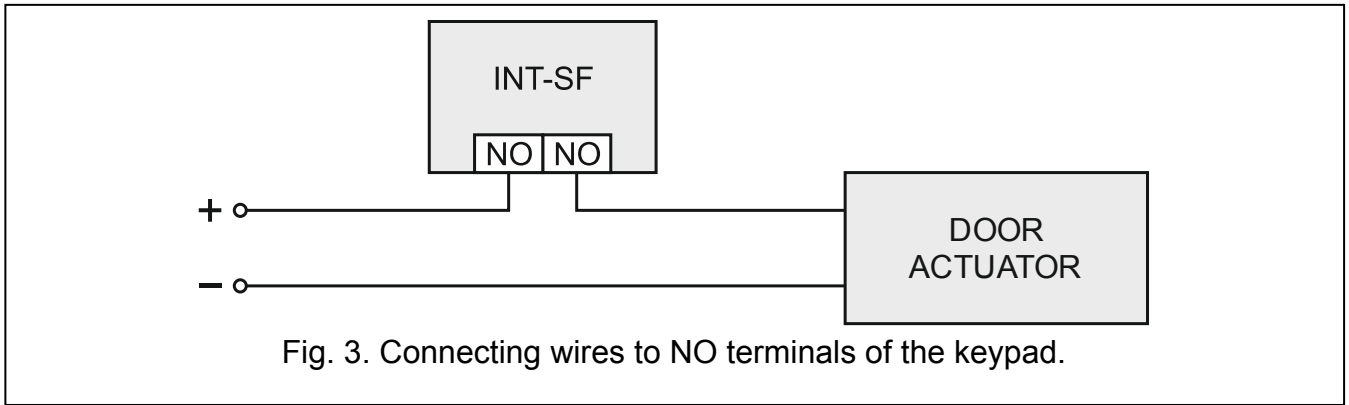

Fig. 3. Connecting wires to NO terminals of the keypad.
8. If the partition keypad is to control an electric strike, electromagnetic lock or another door actuator, connect corresponding wires to the NO terminals (see Fig. 3). It is not recommended that the door actuator be powered from the same source as the partition keypad.